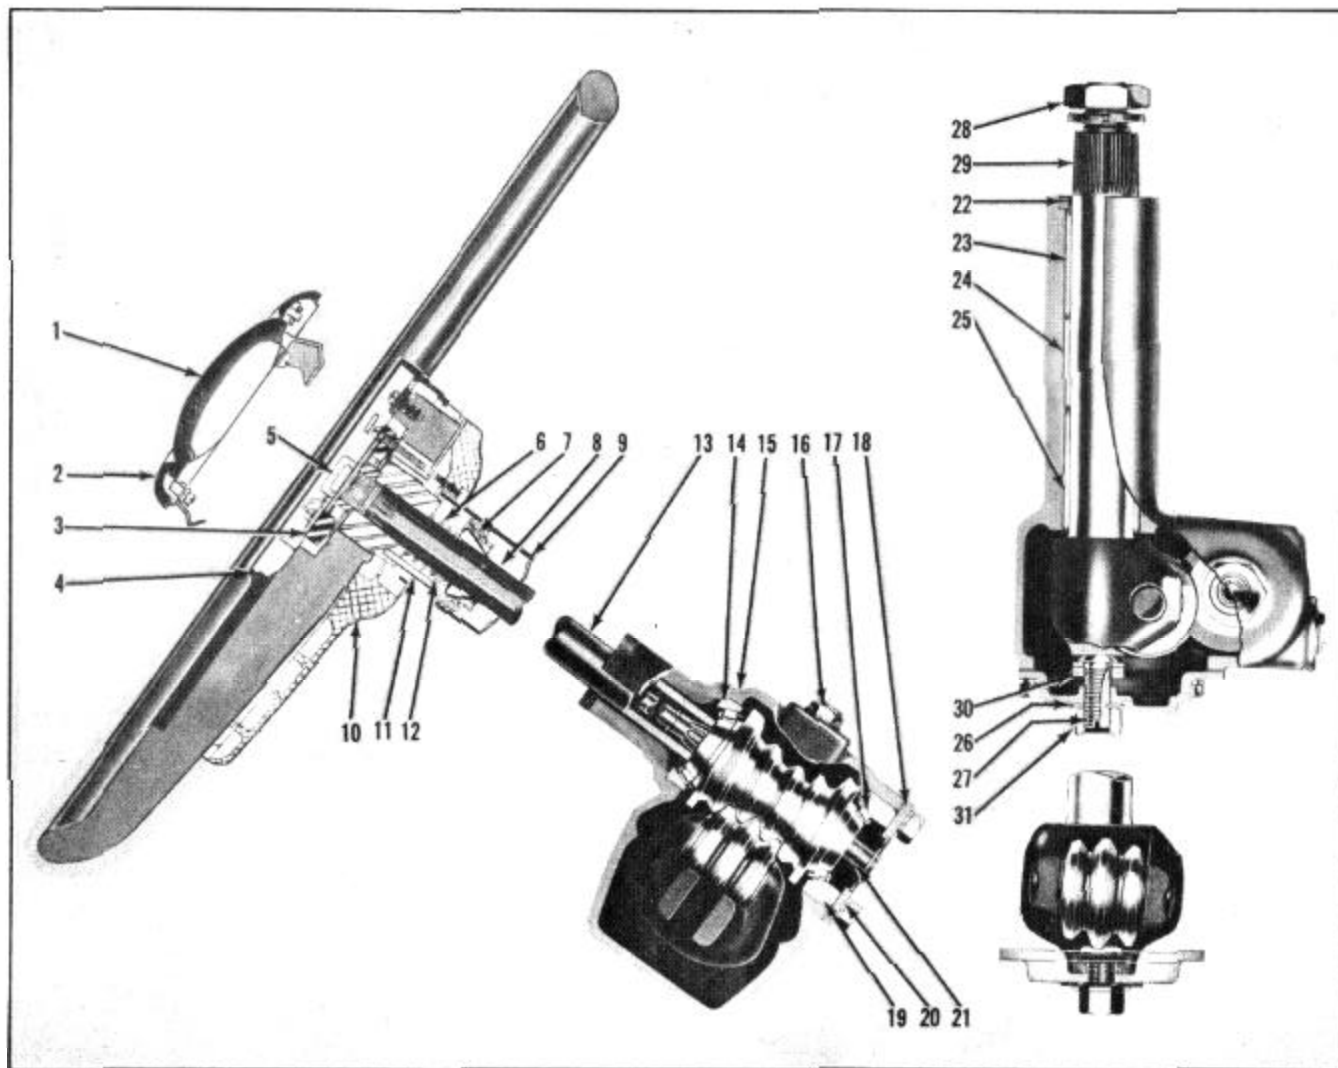

FIGURE 1
1. Pry ornament and ring assembly (2), Figure 1, out of steering wheel spoke cover. 2. Remove three screws attaching horn ring insulator (3) to horn ring.
3. Disconnect horn wire at horn relay and remove insulator ring, contact cup (5) and wire.
2. Place horn ring (10), Figure 1, over steering column jacket tube (9).
4. Insert horn wire, contact cup (5) and insulator (3).